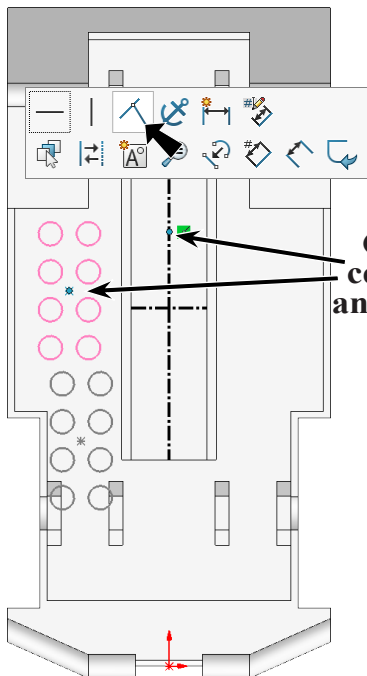

**Fig. 113**
Step 7. In Insert Block Property Manager, click **Browse**, **Fig. 112** in Open dialog, navigate to **Documents\Tech Ed 25-26\ESCar** and open **LEGO 2x4 Block** file, **Fig. 113** under Parameters